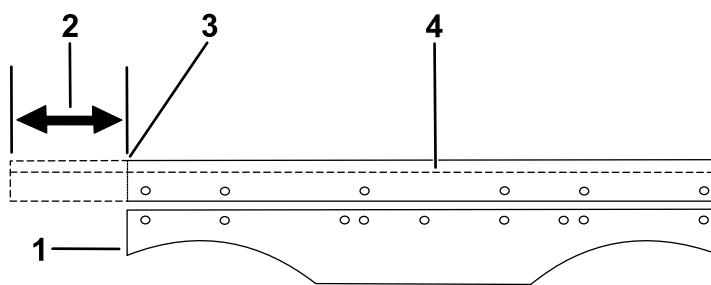

Figure 4
- For 60 inch decks, trim the skid skirts at the first notch on opposite sides. Count the notches from the outside to in as shown in Figure 4.